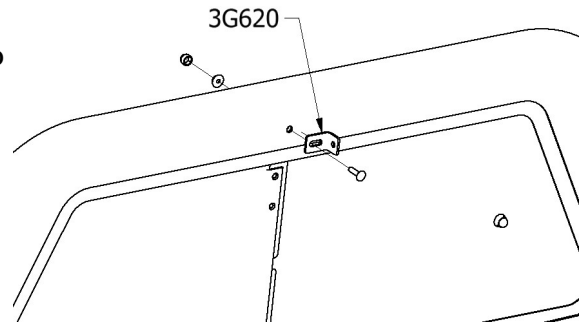

Figure 1
- C. Begin by removing the 1/4" carriage bolt from the top center-most location that holds the window in the partition. Then place (3G620) divider bracket in this location with the slotted hole against the partition. Insert new (3X82) carriage bolt into hole and tighten with original nut. (Fig. 1)